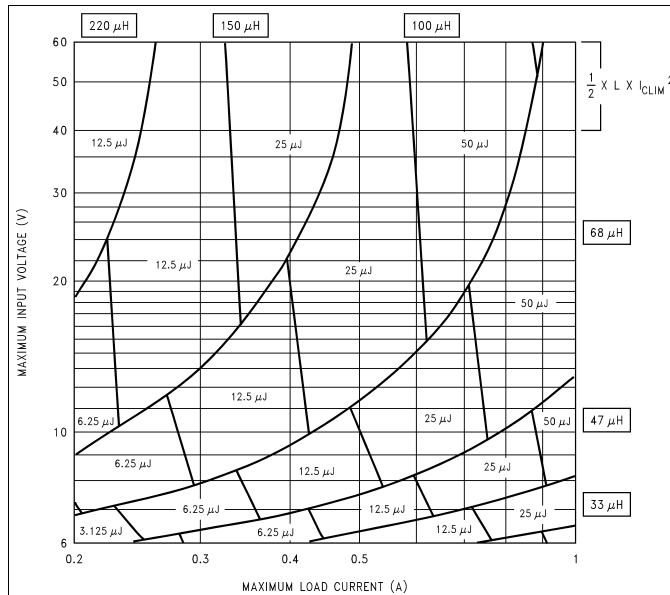
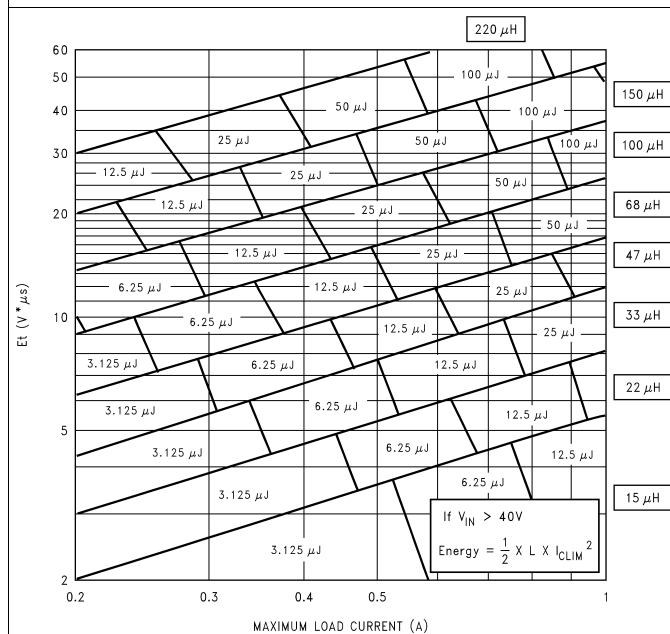

Figure 33. LM2590HV 3.3-V
Figure 35. LM2590HV Adjustable Voltage
For a quick-start, refer to the nomographs provided in Figure 33 to Figure 35. To widen the choices to a more general selection of available inductors, the nomographs provide the required inductance and also the energy in the core expressed in microjoules ( $\mu\text{J}$ ), as an alternative to just prescribing custom parts. The following points need to be highlighted:
5. Figure 35 shows the inductor selection curves for the Adjustable version. The y-axis is  $Et$ , in  $V\mu\text{secs}$ . It is the applied volts across the inductor during the ON time of the switch ( $V_{\text{IN}} - V_{\text{SAT}} - V_{\text{OUT}}$ ) multiplied by the time for which the switch is on in  $\mu\text{secs}$ . See Example 3.
1. Since input voltage is less than 40 V, a first pass inductor selection is based upon Inductance and rated max load current. We choose an inductor with the Inductance value indicated by the nomograph Figure 35 and a current rating equal to the maximum load. But we first need to calculate Et for the given application. The Duty cycle is Equation 5.
3. Therefore, looking at Figure 33, quick-select a 47- $\mu$ H, 2-A inductor (designed for 150 kHz operation) for this application.
4. Confirm that it is rated to handle 200  $\mu$ J (see Figure 35) by the procedure shown in AN-1197 Selecting Inductors for Buck Converters (SNVA038) and that the losses are acceptable. (If the DC Input voltage had been greater than 40 V we would need to consider  $e_{CLIM}$  as in Example 2). This completes the simplified inductor selection procedure. For more general applications and better optimization, refer to AN-1197 Selecting Inductors for Buck Converters (SNVA038).